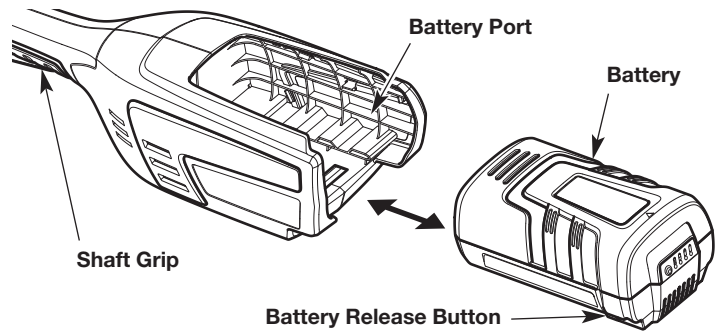

Fig. 11
1. Grasp the shaft grip firmly (Fig. 11). **DO NOT** press the trigger lockout and **DO NOT** squeeze the trigger. Refer to *Starting and Stopping*.
2. Slide the battery into the battery port (Fig. 11). Push the battery firmly until the battery locks into place (Fig. 11). There should be an audible “click.”
2. Press the battery release button to unlock the battery (Fig. 11).
3. Pull the battery out of the battery port (Fig. 11).